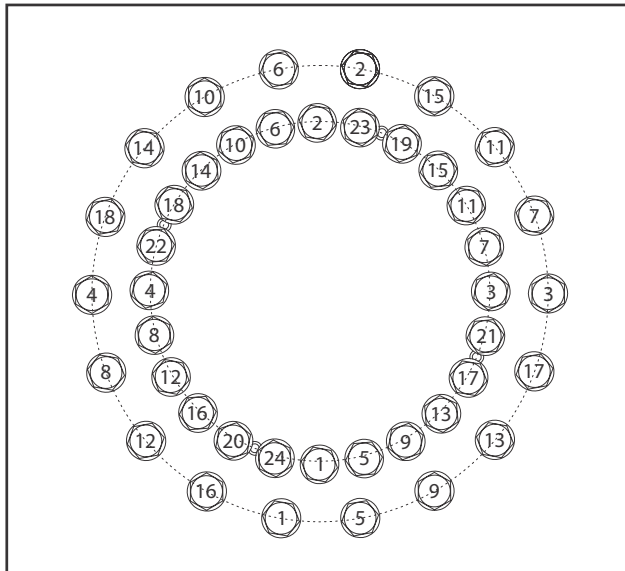

Figure 3-34. Swing Bearing (Dohi) Torque Sequence
7. Tighten bolts to initial torque of 130 ft-lb (176 Nm) following torque sequence shown in Figure 3-34., Swing Bearing (Dohi) Torque Sequence. Tighten to final torque of 190 ft-lb (257 Nm) following same sequence.
12. Tighten bolts to an initial torque of 130 ft-lb (176 Nm) following torque sequence shown in Figure 3-34., Swing Bearing (Dohi) Torque Sequence. Tighten to a final torque of 190 ft-lb (257 Nm) following same sequence.